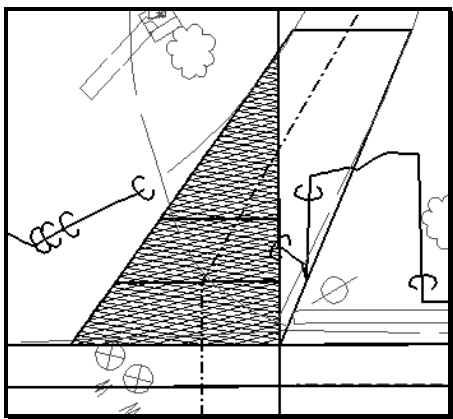

Figure 17-1: Driveway template does not reach the match due to the station of the template drop.
- ❶ *A template is always dropped at a 90 degree angle to the centerline. If the template can't locate an edge of the driveway or match point (Figure 17-1) due to the angle of the driveway or the range of the station start or stop, the Driveway Design Option 2 method may be the best option for the driveway.*